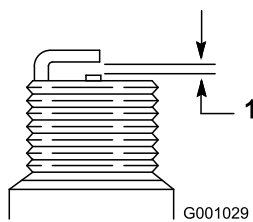

Figure 24
4. Set the gap between the electrodes on a new spark plug at 0.76 mm (0.030 inch) as shown in Figure 24.